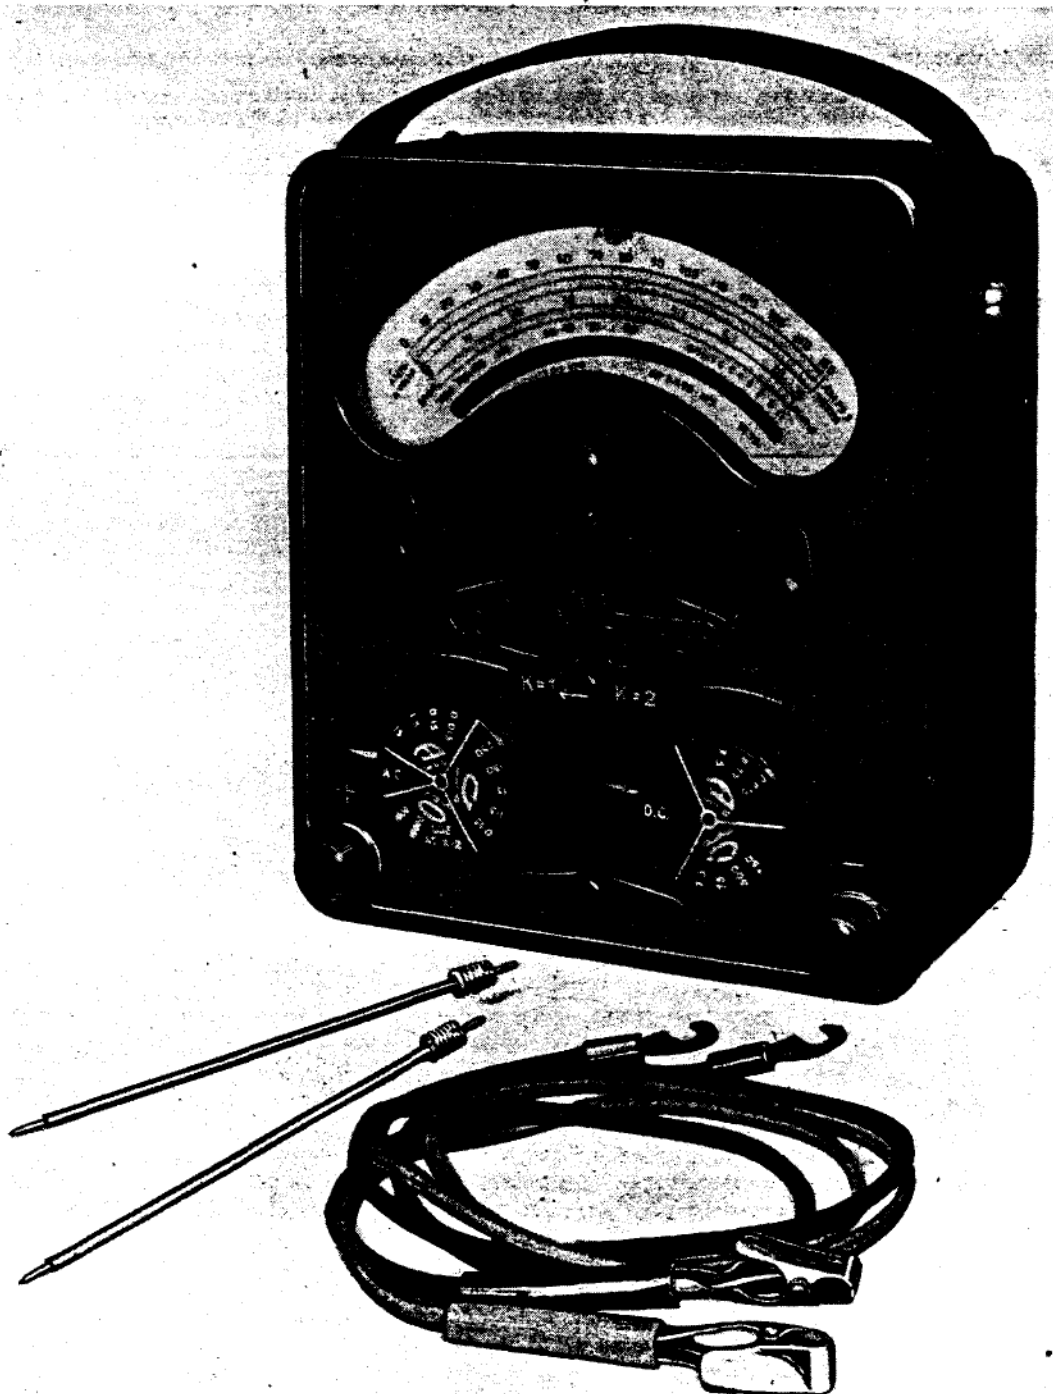

Fig. 1.—Testmeter, type D
10. Although similar in design to the testmeter already described, testmeter, type D, which is illustrated in fig. 1 has slightly differing controls. Instead of the press button, a multiplier switch knob is situated in the centre of the panel. It is engraved with a white indicating arrow, the designation $K = 1$ appearing on the left, and the designation $K = 2$ appearing on the right-hand side of the control. By use of this control the voltage indications, with the knob in the $K = 2$ position, are doubled. The control Q at the right of the panel below the scale is a dummy. The scale is white and has three sets of calibrations marked on it in black, the markings being in sub-divisions of amps, volts, and ohms. When used as a voltmeter, the resistance of the electrical circuit of the instrument is 400 ohms per volt on $K = 1$ and 200 ohms per volt on $K = 2$.